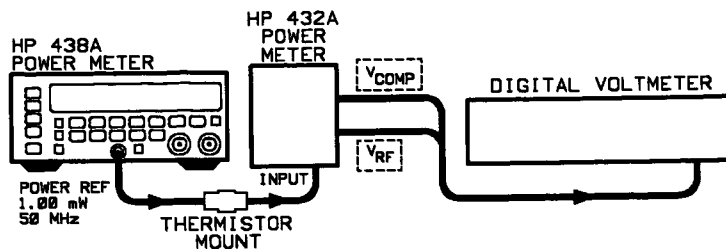

Figure 4-3. Power Reference Level Test Setup
2. Round the DVM reading to two decimal places. Record this value as the internal bridge resistance (R) of the test power meter (approximately 200 ohms).
3. Connect the test power meter to the power meter as shown in Figure 4-3.